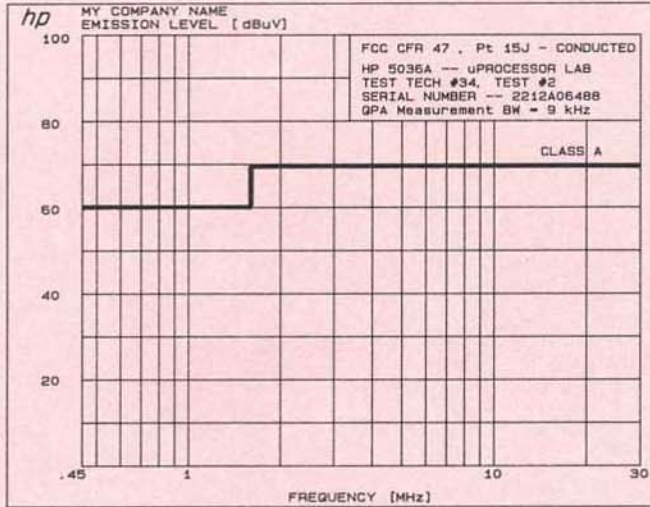

Figure 5. Limit Table and Spectrum Analyzer Display of Limit
- Enter limit line, number of limit points, frequency and amplitude of each point (see Figure 5)